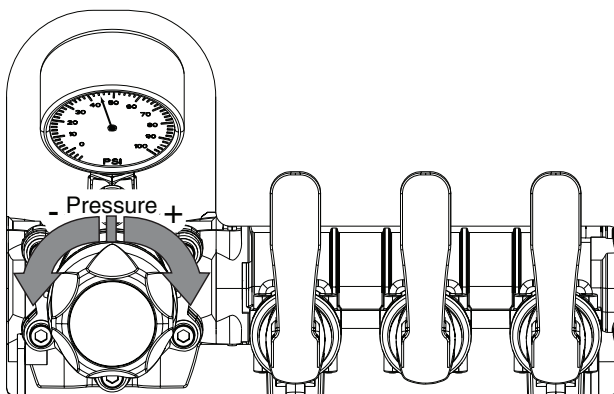

Figure 4-10. Sprayer Pressure Adjustment
5. Adjust the sprayer pressure to the desired psi (do not exceed 60 psi) using the pressure valve (counter clock-wise to decrease pressure, clock-wise to increase pressure). See Figure 4-10